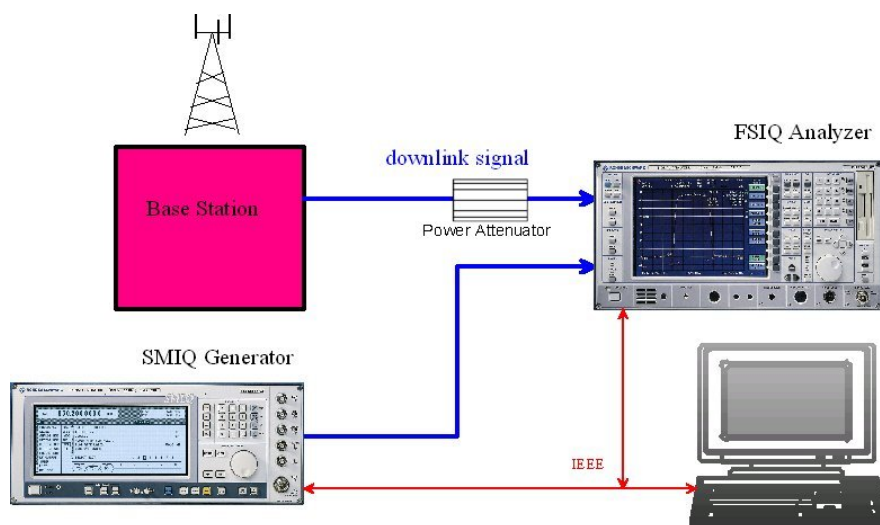

Fig. 4: General test set up for the transmitter tests
Figure 4 shows the general test set up for the transmitter tests.
- Figure 4 only shows the principle test set up. For the actual measurement system set up for each test, see Appendix B of the test specification TS 25.141.